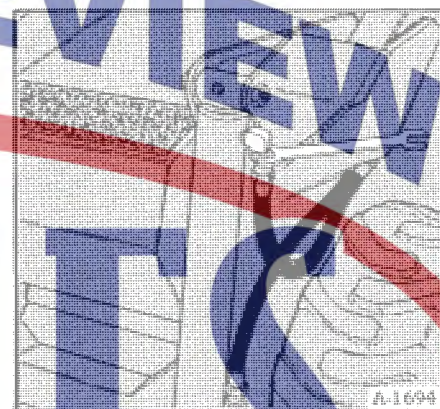

Fig. 49 Checking Tilt Cylinder Seals
2. Remove the hose from the cylinder port. Plug the hose with a 1/2" NF SAE male plug (Figure 49).